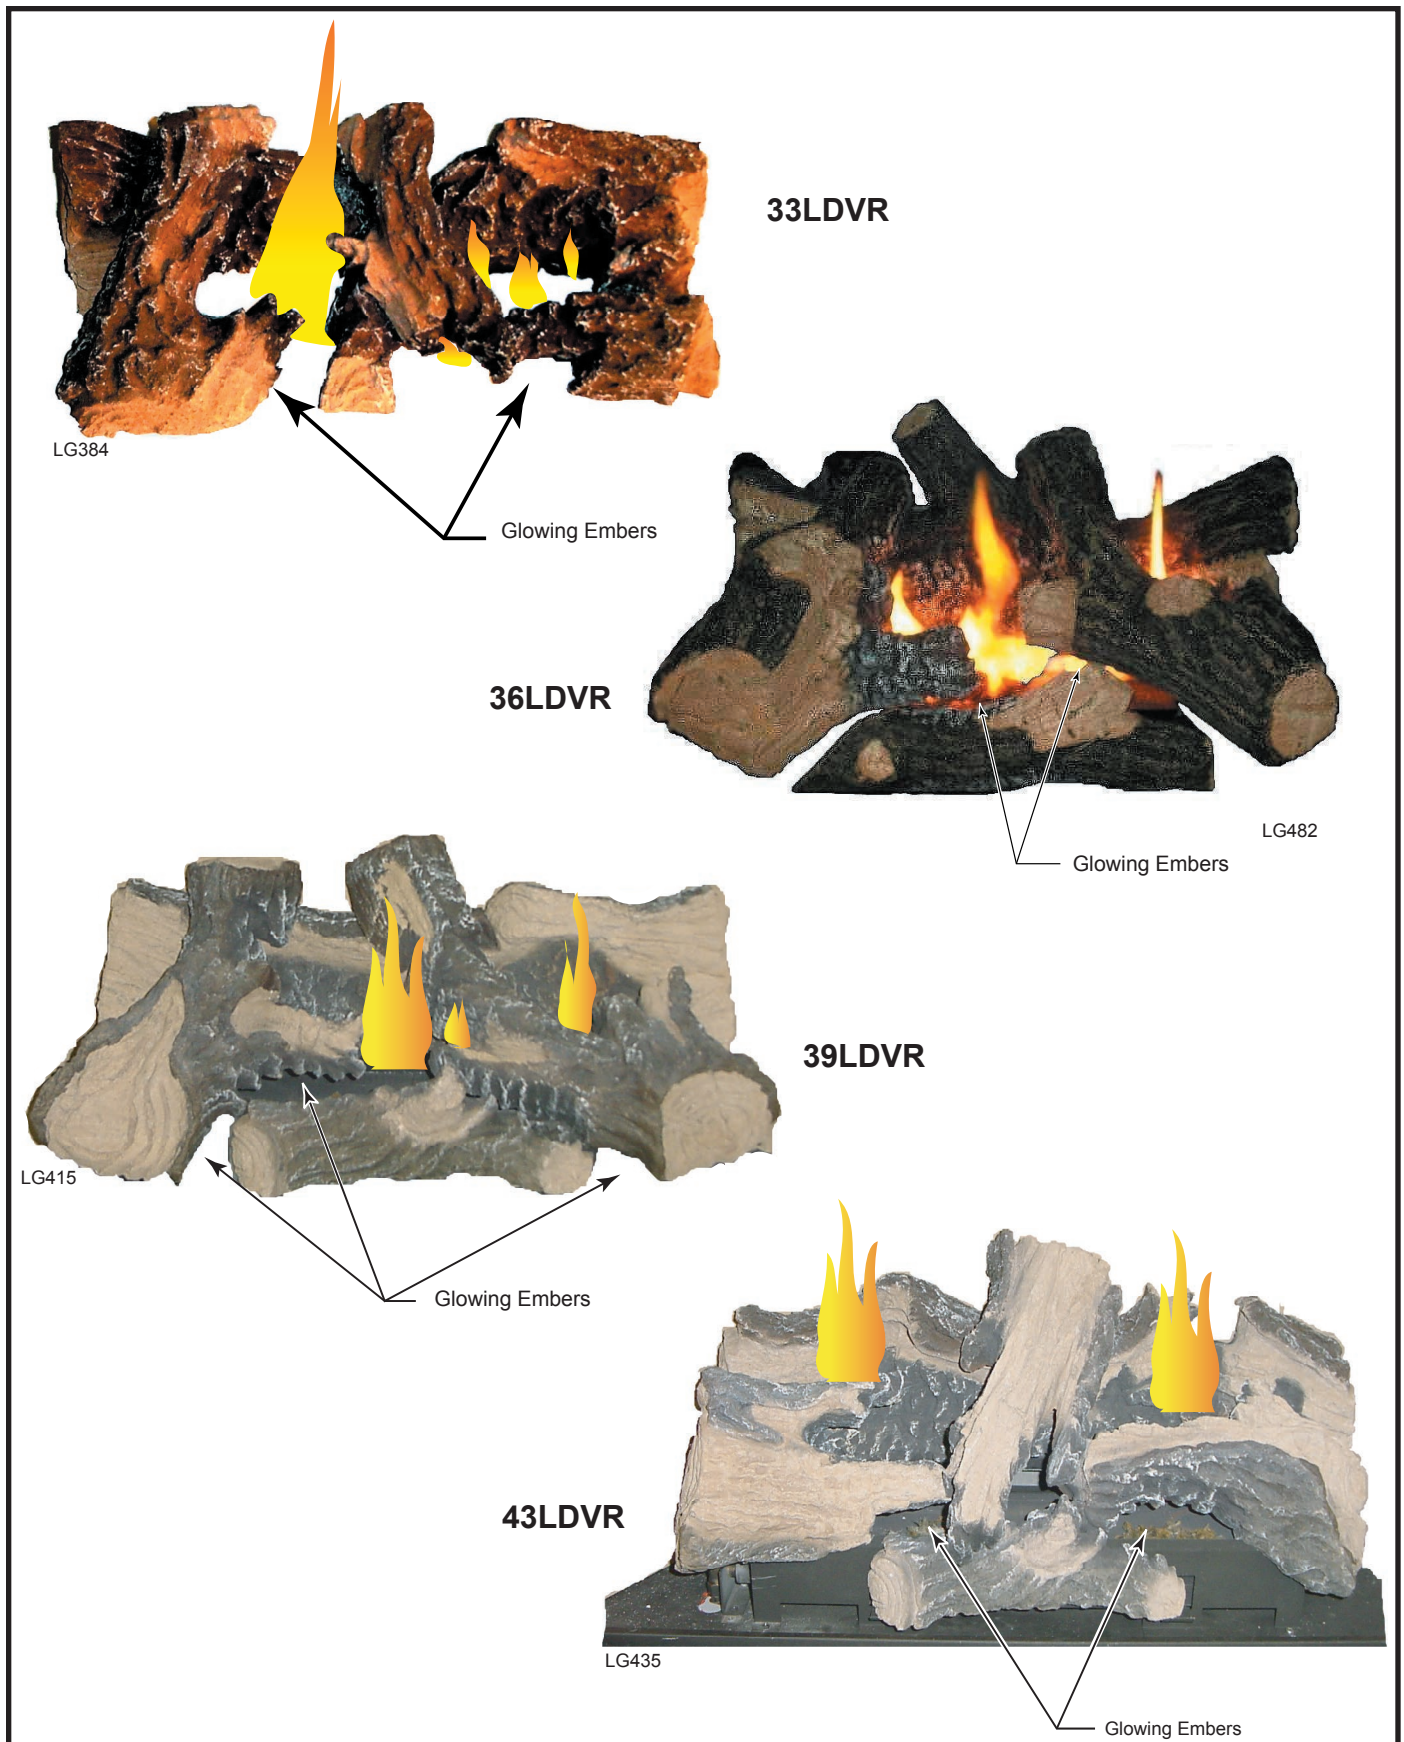

Fig. 48 Correct burner flame appearance for the LDVR fireplaces.
5. Place ember material on top of burner. Scatter the ember material over the tiles on the front area of the burner housing. (Fig. 48) Do not pack the ember material. Separate it when unpacked and keep it in a fluffy and loose condition for a more realistic ember effect.